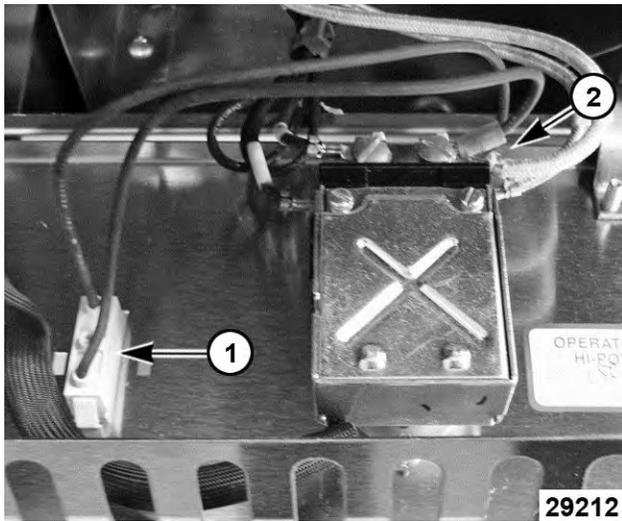

Fig. 31
- A. Front control panel indicator lights (1, Fig. 31) electrical connections (2, Fig. 31).